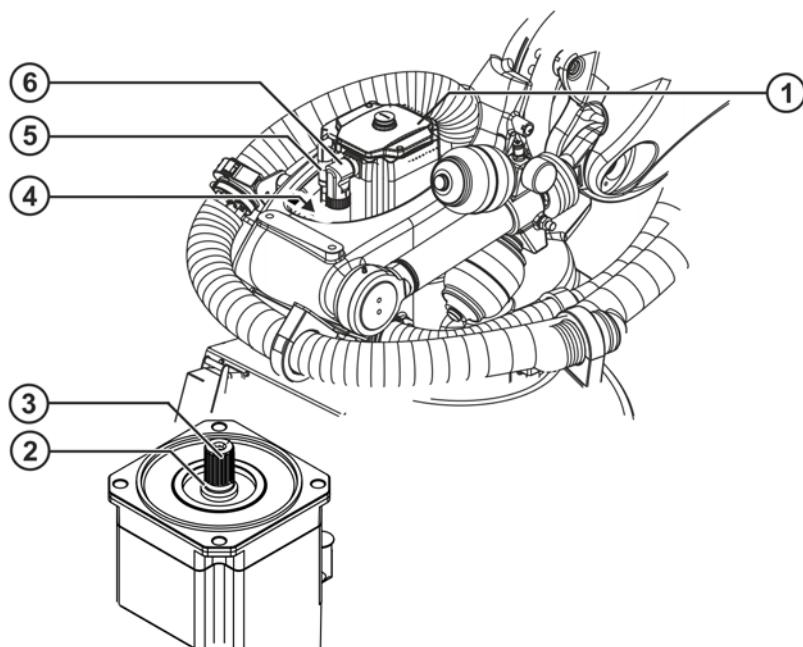

Fig. 11-2: Installing motor A1
1. Remove corrosion protection from new motor A1, if applicable (>>> Fig. 11-2).